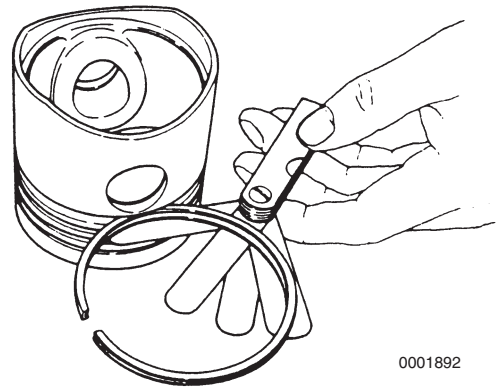

Figure 6-114
9. Place each compression piston ring in the groove as shown (**Figure 6-114**). Use a feeler gauge to measure the clearance between the piston ring and the piston ring land. Record the measurements. See *Piston Ring on page 6-17 for specifications*. Replace the piston if not within specification.